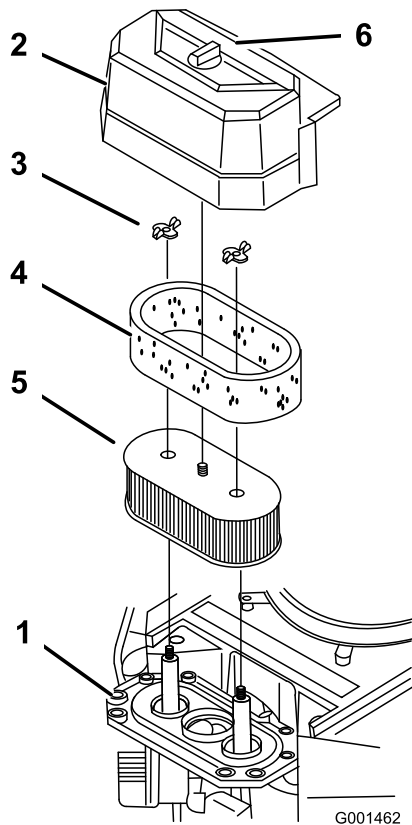

Figure 29
3. Clean around the air cleaner to prevent dirt from getting into the engine and causing damage (Figure 29).
4. Unscrew the cover knob and remove the air cleaner cover (Figure 29).
- Remove the 2 wing nuts and remove the air cleaner assembly (Figure 29).
- Carefully pull the foam element off the paper element (Figure 29).
- Do not clean the paper filter. Replace it after 200 operating hours (Figure 29).
- Carefully slide the foam element onto the paper air cleaner element (Figure 29).
- Place the air cleaner assembly onto the air cleaner base and secure it with the 2 wing nuts (Figure 29).
- Place the air cleaner cover into position and tighten the cover knob (Figure 29).